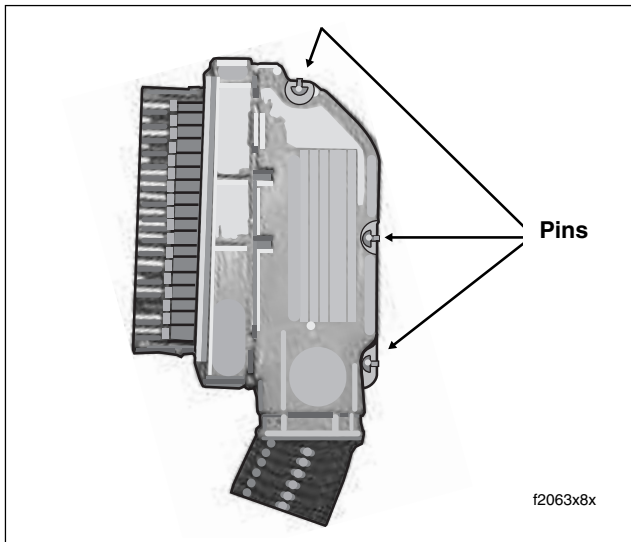

Figure B-34. Separate Halves of Socket Housing
3. Using a thin blade, gently pry at seam at back of socket housing to release three plastic pins from slots in housing. Separate and spread halves of socket housing. See Figure B-34.
2. Exercising caution to avoid pinching wires, press halves of socket housing together until three plastic pins fully engage slots in housing. See Figure B-34.